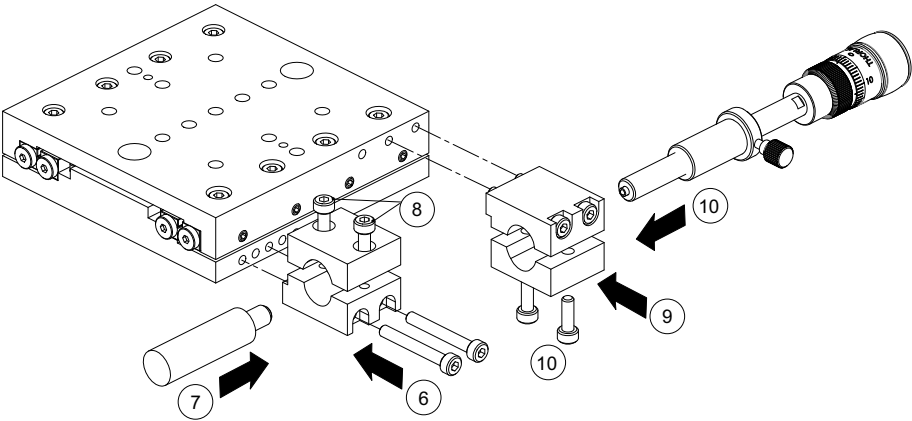

Fig. 4.9 Reconfiguring the Actuator Position
Referring to Fig. 4.9 on the next page:
- 6) Refit the push block mounting block on the opposite side of the stage as shown in Fig. 4.9 and tighten the attachment bolts.
- 9) Refit the actuator mounting block as shown in Fig. 4.9 and tighten the attachment bolts.